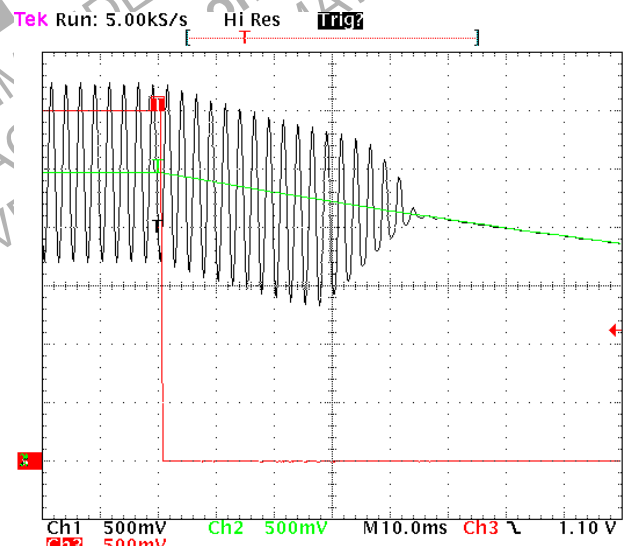

Figure 41. Turning-Off Time Zoom/ $V_p = 5.0$ V
– 50 ms later the audio signal is cut off as the gain is turned to zero internally as shown in Figure 41.